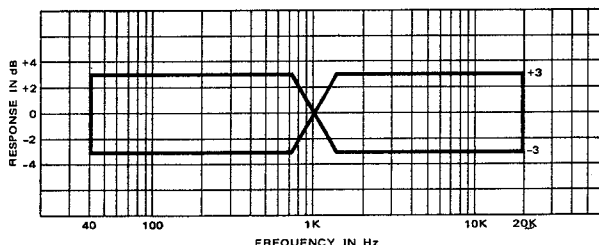

FIG. 26. REPRODUCE FREQUENCY RESPONSE
3. Measure the output signal and check that the frequency range is within the limits shown in Fig. 26. If necessary, adjust R13 for 0 dB at 16 kHz, then again check that the frequency range is within the limits.